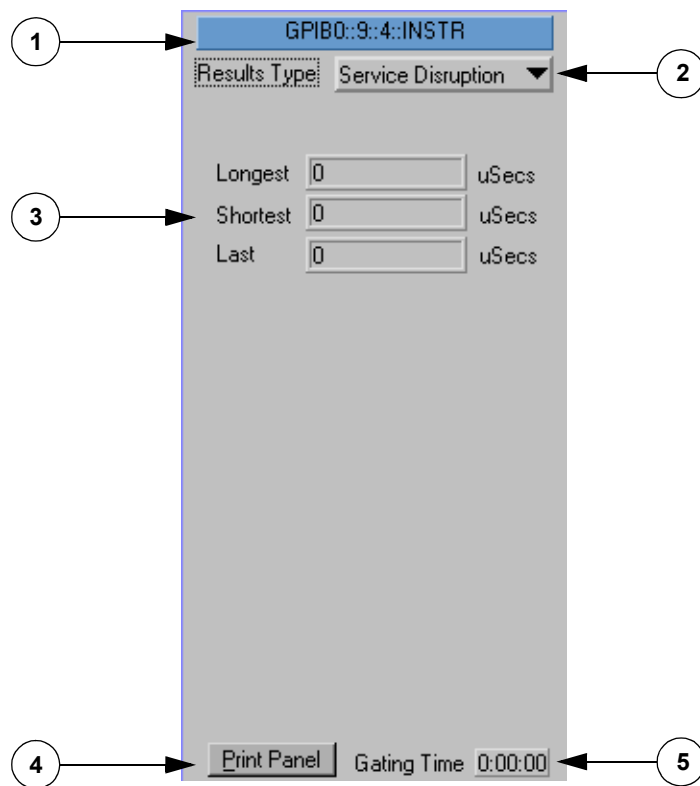

Figure 3-25. Service Disruption Results
- Service Disruption, see Figure 3-25.